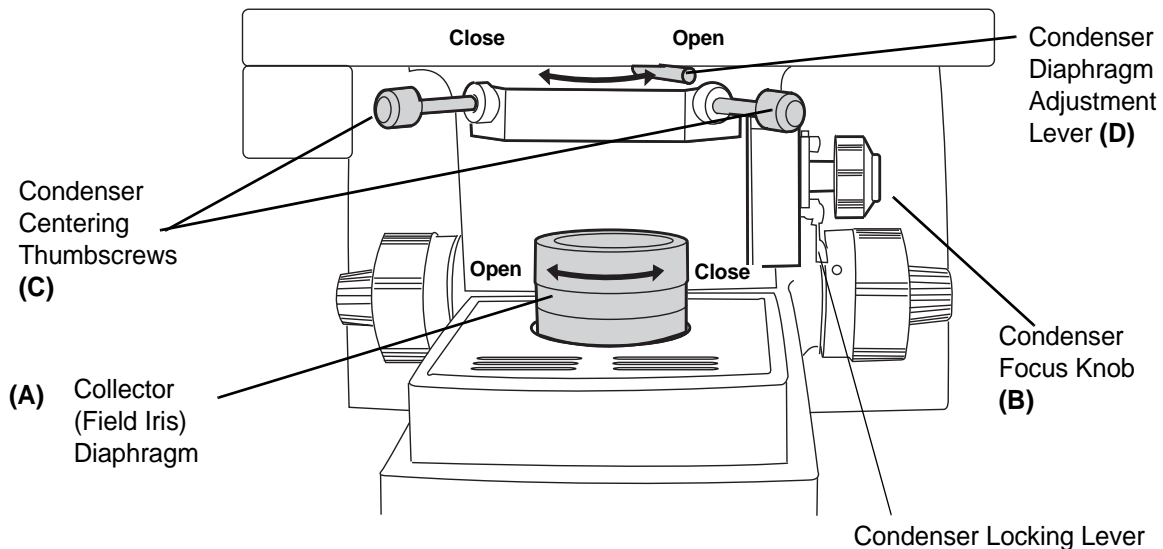

Figure 5-10 Condenser Assembly and Collector
2. Reduce the collector (field iris) (A) aperture to its smallest diameter by turning the collar of the collector diaphragm. Release the locking lever to allow the condenser to move up or down. Focus (sharpen the contrast of the edges of the aperture) by adjusting the condenser up or down (B). Refer to Figure 5-10. Tighten the locking lever when condenser adjustment is done.
3. Open the collector (field iris) aperture until it is slightly smaller than the field of view. Rotate the two condenser centering thumbscrews to center the aperture (C).
4. Open the collector aperture until it just disappears from view (A).
5. Adjust the condenser aperture to achieve desired contrast control by moving the condenser diaphragm adjustment lever (D) left or right to close or open the aperture.